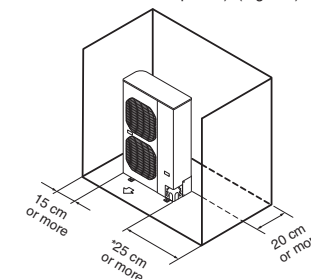

Fig. 2-2
- allow enough room around the unit for air intake/exhaust and possible maintenance. (Fig. 2-2)
- (1) Obstructions on the left side, right side and rear side (Front side and above the unit are opened). (Fig. 2-2)